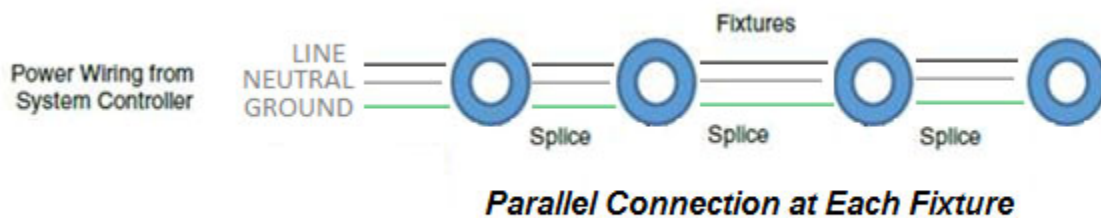

Figure 2
2. Refer to Figure 2 on page 7 for dimensions and distance in between holes.